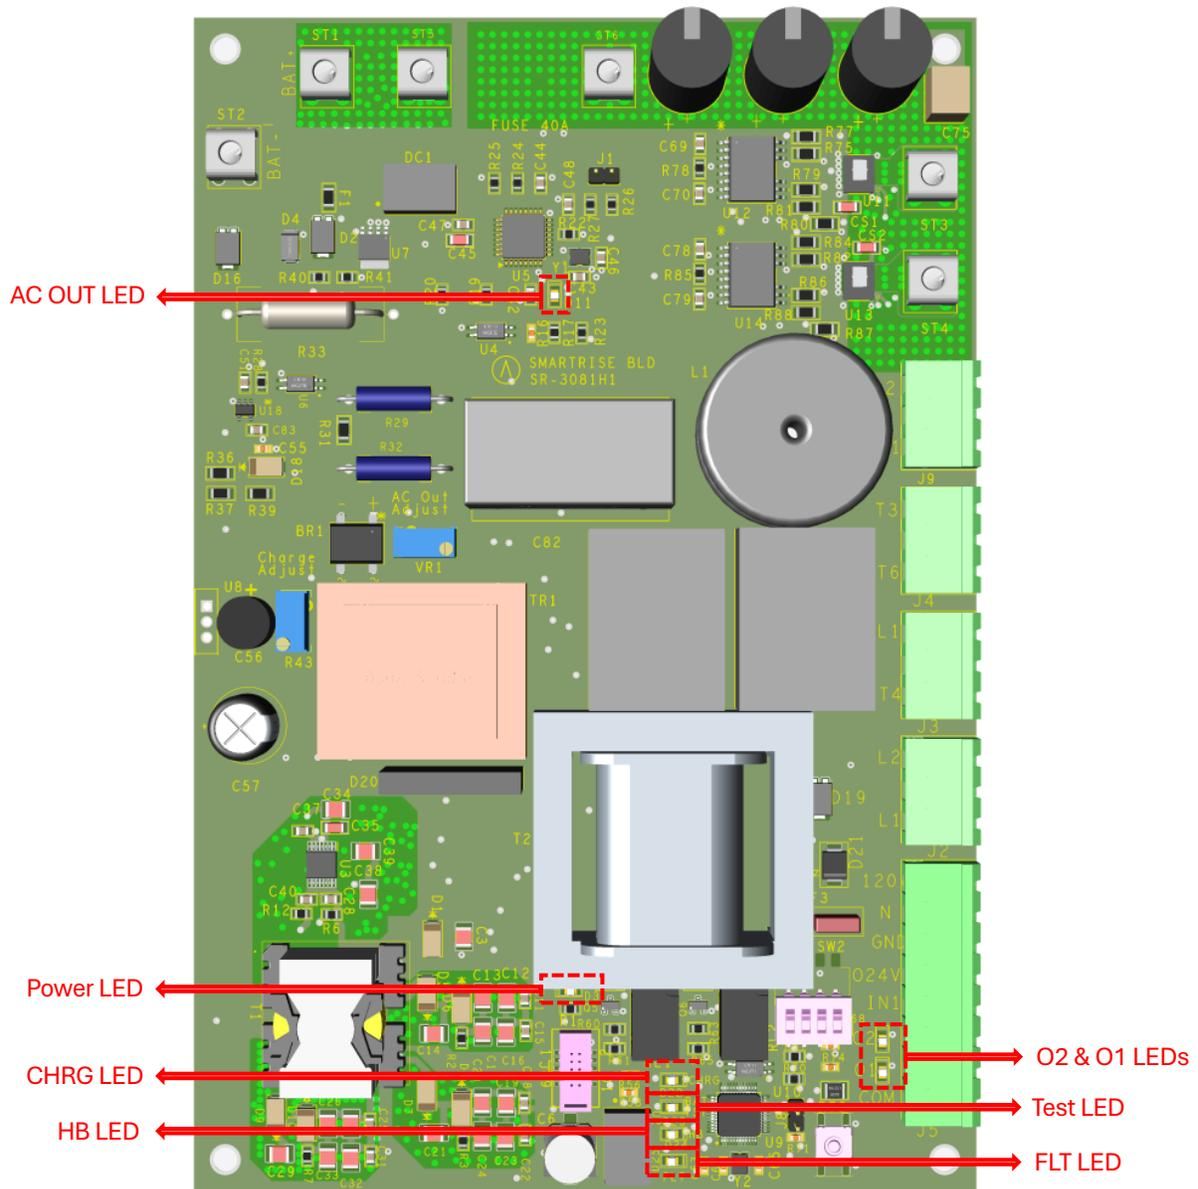

Figure 6: BLD LEDs
- ◆ **FLT LED:** Flashes in cycles to indicate the state and any faults in the BLD [see Figure 6].